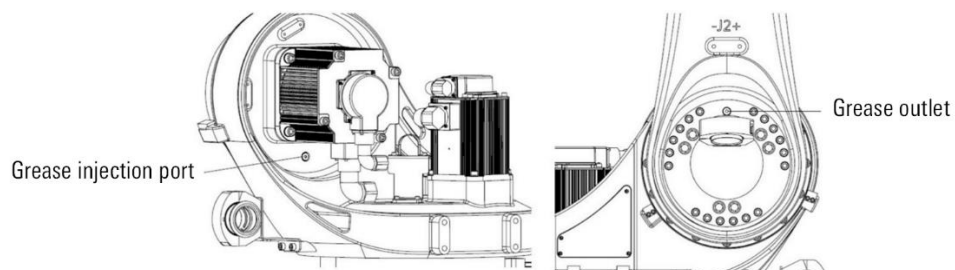

Figure 12-13 Replace the grease of J2 axis reducer
- Step4. Remove the grease outlet M10x1 plug, as shown in Figure 12-13.